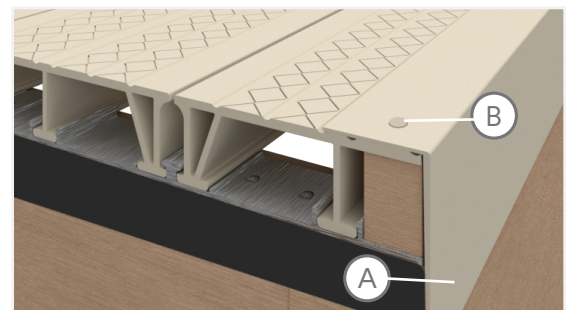

Fig. 14
- Trim and finish the DockDeck board and substructure as desired (Fig. 14).